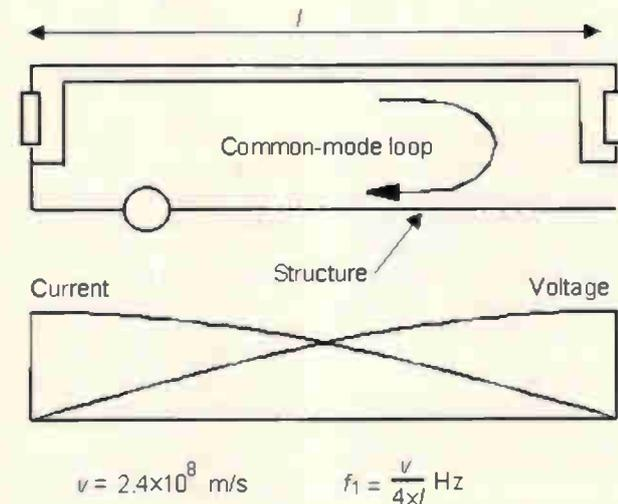

Fig. 3. Floating configuration at its first resonance point - i.e. quarter-wave.
**Floating.** The response of the floating configuration when the frequency reaches the first resonance point is shown in Fig. 3. When the quarter wavelength of the interference is equal to the length of the cable, an open circuit at the far end of the line looks like a short circuit at the near end. High amplitude current flows in the return conductor, creating a high amplitude transfer voltage, and a high level of interference in the signal loop.